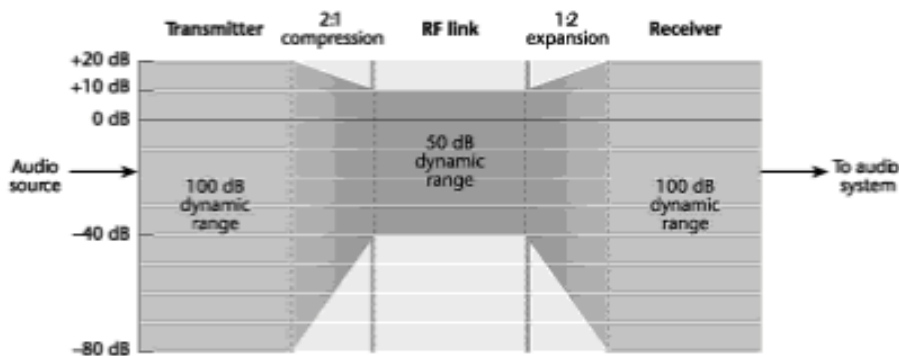

Figure 6-34 Compander action.
*Companding*, a contraction of the words *compressing* and *expanding*, compensates for the limited dynamic range of radio transmission. The input signal varies over a range of 80 dB and is compressed at the transmitter to a range of 40 dB, a factor of 2 to 1. At the receiver, the signal is expanded by 40 dB to its original dynamic range, a factor of 1 to 2. Even though companding sometimes creates noise, coloration, and the audible pumping sound caused by compander mistracking, particularly in less expensive systems, a wireless mic is always far better off with companding than without it (see Figure 6-34).